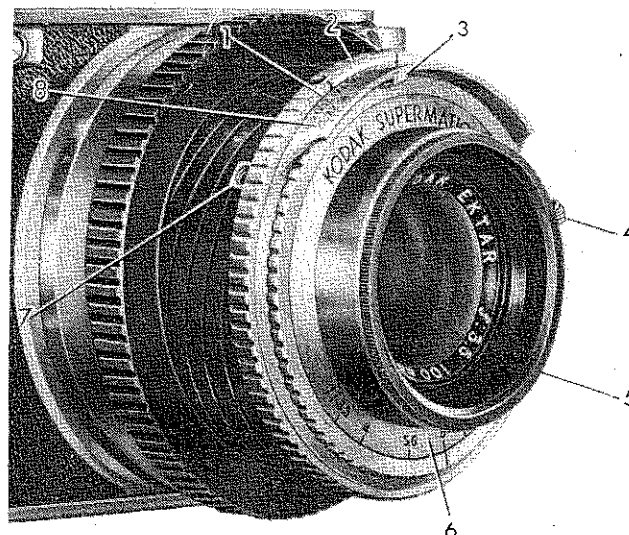

Figure 2—Lens and Shutter
h. A leather carrying case and two filters, the Wratten No. 12 (Minus Blue) and No. 25 (A), are included with each camera.
a. LENS. (See figure 2.)
(1) The 100-mm $f/3.5$ Kodak Ektar Lens is fully color-corrected. It covers an angle of view of 32° x 45° when focused at infinity.
(2) All inner air-glass surfaces are coated to reduce internal reflections and to increase light transmission.
(3) The lens is marked for the following openings: $f/3.5$, $f/4$, $f/5.6$, $f/8$, $f/11$, $f/16$, $f/22$, and $f/32$.
(4) The inside of the lens mount is threaded and is supplied with an insert (5) which retains a filter directly in the mount.
b. SHUTTER. (See figure 2.)
(1) The Kodak Supermatic Shutter is of the gear-train retard, presetting type. It has a built-in delayed exposure mechanism and a cable release socket (7) for remote control and flash synchronization.
(2) The shutter is marked for the following speeds: 1, 1/2, 1/5, 1/10, 1/25, 1/50, 1/100, 1/200, and 1/400 second, as well as bulb. Time exposures are made with a special locking lever on the trigger button.